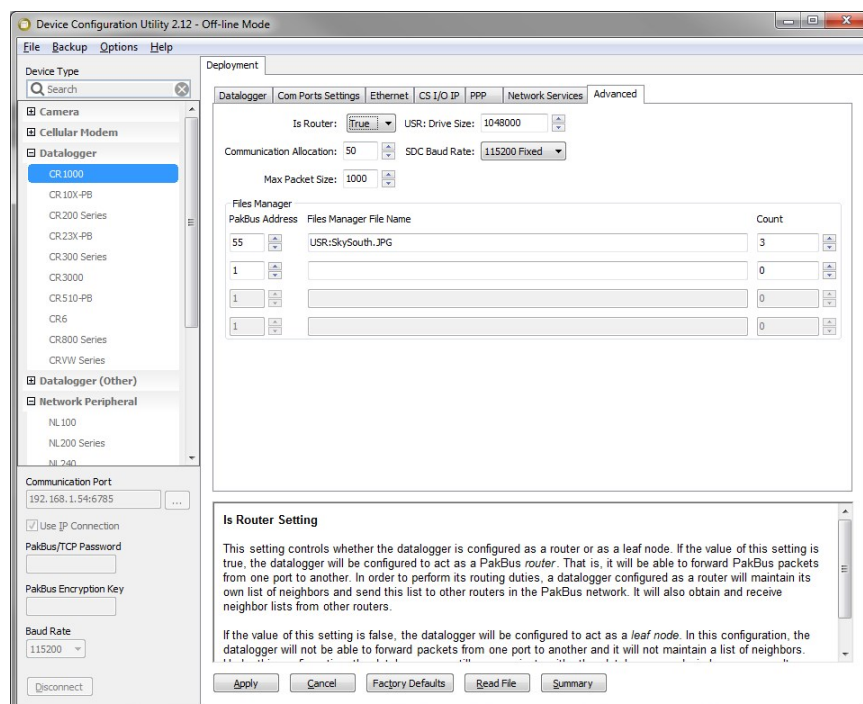

FIGURE 20-1. Data logger files manager
- DDD – destination drive on the data logger. Use USR for the user drive (see FIGURE 20-1 (p. 120)). Use CRD for the memory card.
- NAME – a name string used to name the files. In FIGURE 20-1 (p. 120), this value is *SkySouth*. The file name automatically produces an incrementing number. In this example, the first file will be named *SkySouth1.jpg*. Type zero for this parameter to disable the automatic numbering and produce a fixed file name of 0. In this example, the **Files Manager File Name** would be USR:0.JPG.
- EXT – the file extension the incoming file must match. In the case of the camera, this must always be either jpg or avi. In FIGURE 20-1 (p. 120), this value is *JPG*.